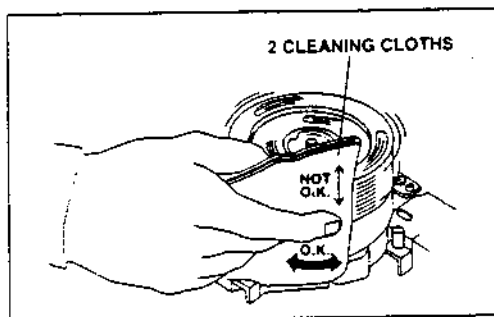

Fig. 1-3-1
In event of electrical system failure that prevents the tape from being unloaded, the tape can be removed manually by the following procedure. Refer to Figs. 1-3-1, 1-3-2 and 1-3-3.
3. Use two (2) cleaning cloths moistened with 91% isopropyl alcohol. Hold them very gently against the rotating video heads. Refer to Fig.1-3-1.